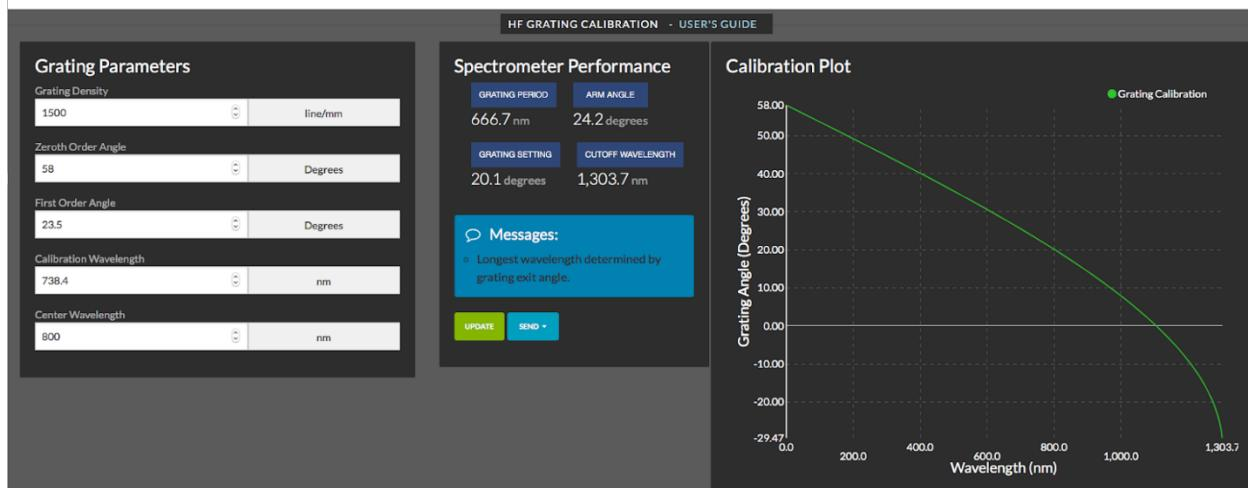

Figure 7-6 Typical web page from LightMachinery calculator for grating calibration.
- For spectrometer models where the camera is a Pixelink model, your external trigger signal must meet the following requirements (see Figure 7-6):